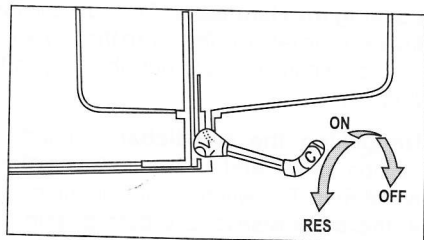

Fig. 8
**Control of flow of petrol** (Fig. 8) : There is a fuel cock below the seat which has 3 positions; (ON) for regular flow of petrol from the tank to the engine; (OFF) for stopping the petrol supply from the tank to the engine; and (RES) to be activated when the need arises.